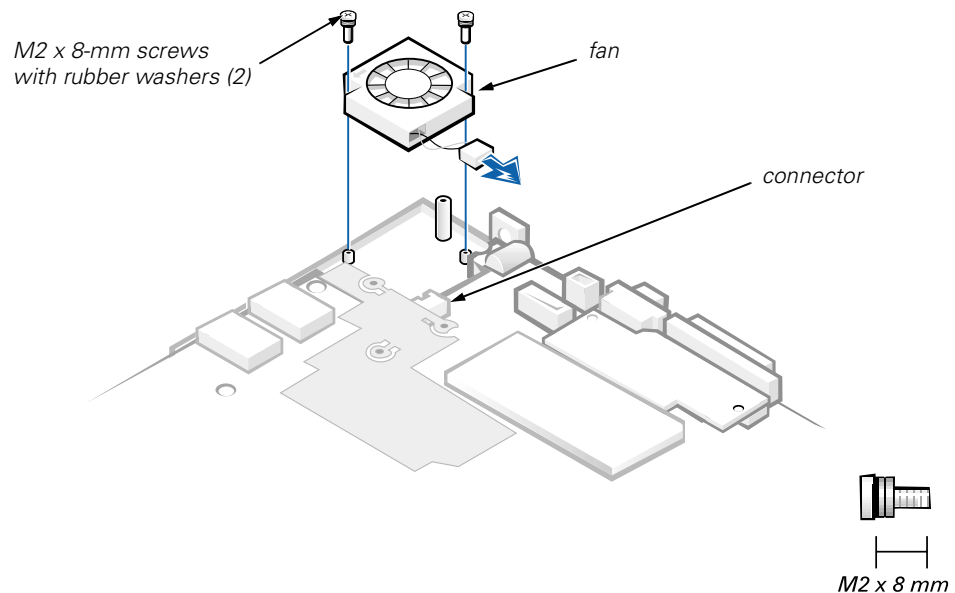

Figure 20. Fan Removal
5. Carefully disconnect the fan wire connector from the system board (see Figure 20).
6. Remove the two M2 x 8-mm screws with double rubber washers that secure the fan to the bottom assembly (see Figure 20).